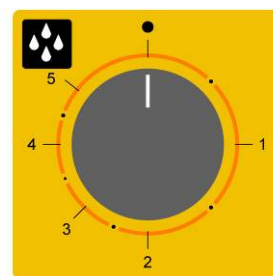

Fig. 5
**Programming vapour quantity** - To generate vapour while the oven is in operation (cooking compartment hot), turn the knob of the automatic humidifier (Fig. 5) in line with the required value (from 1 to 5). If you turn the knob to position • (OFF) the humidifier will stop operating.